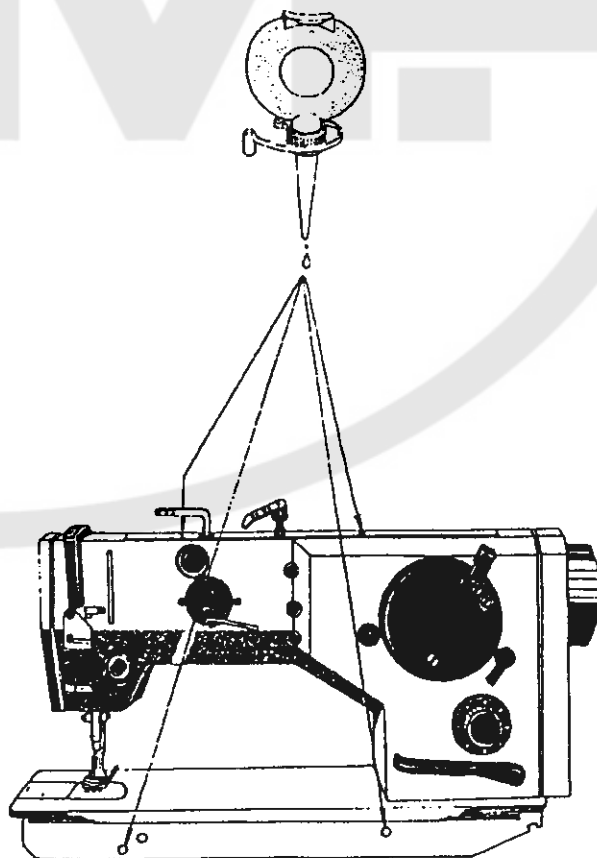

Fig. 1
5. To clean and lubricate the machine (Fig. 1; Tabs. 16, 17)